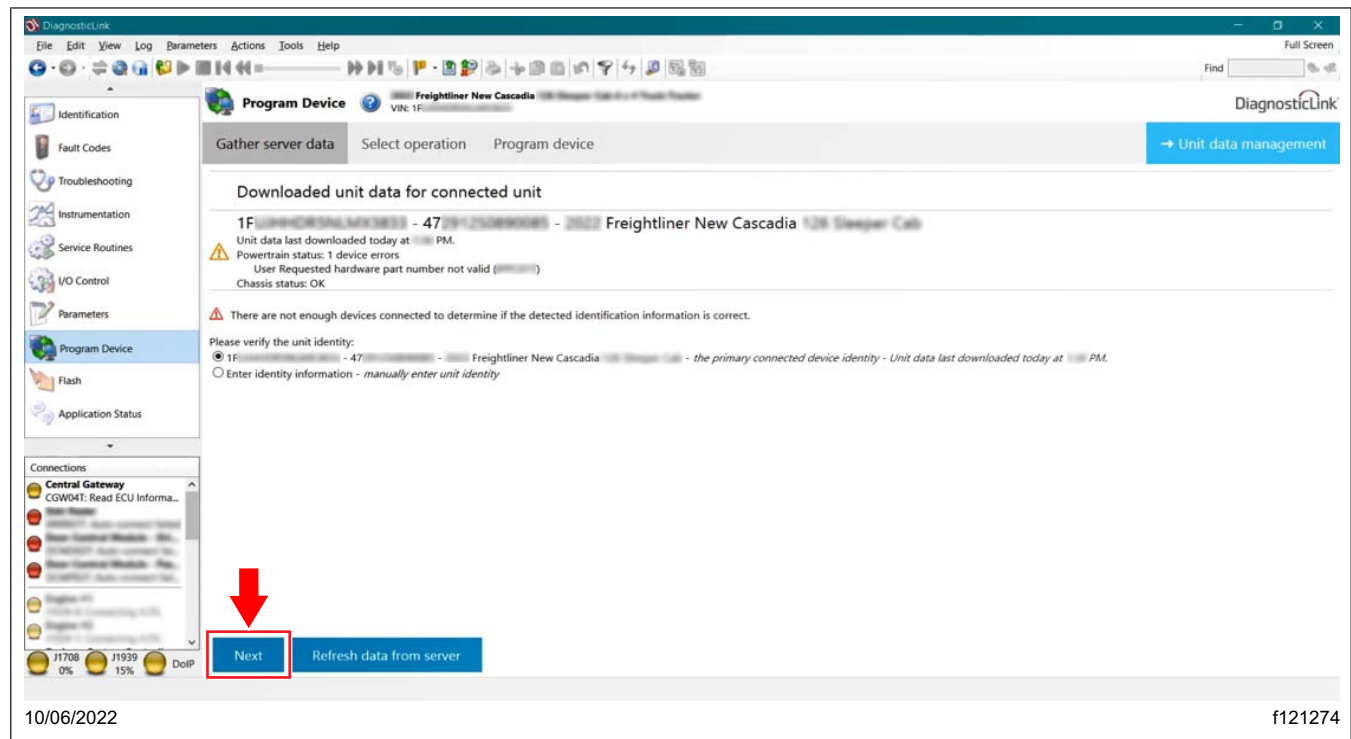

Fig. 14, Selecting Next
20. Once the latest data is retrieved, select 'Next.' See Fig. 14.